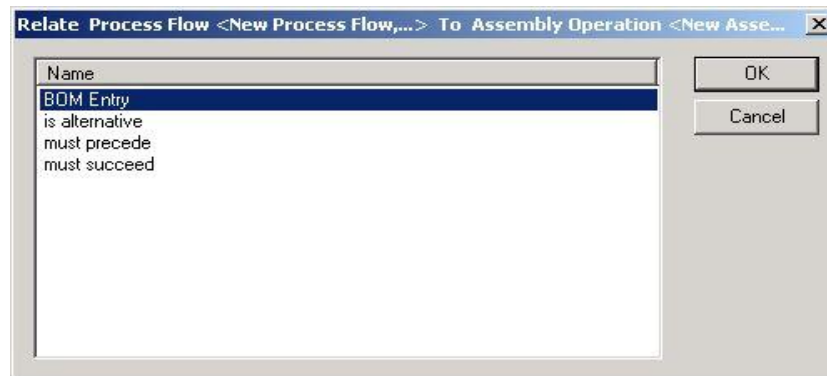

Figure 142: Dialog with Relations
- 5) Select the relation in the dialog. *Please refer to the Figure 142.*